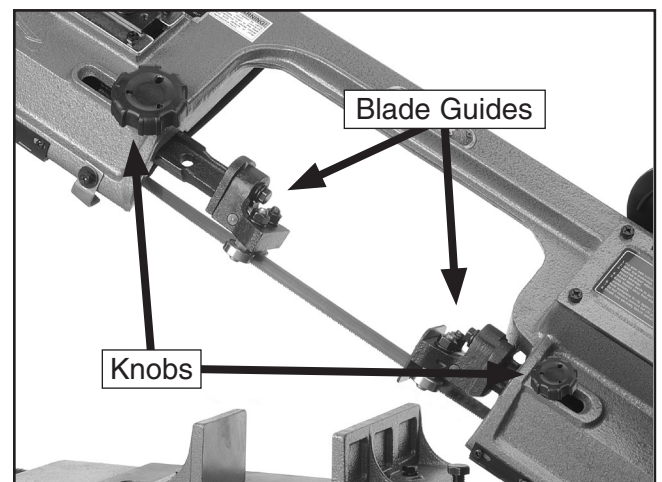

Figure 33. Blade guides.
1. Loosen the knobs shown in **Figure 33** and slide the blade guides as close to the workpiece as possible, then tighten the knobs.